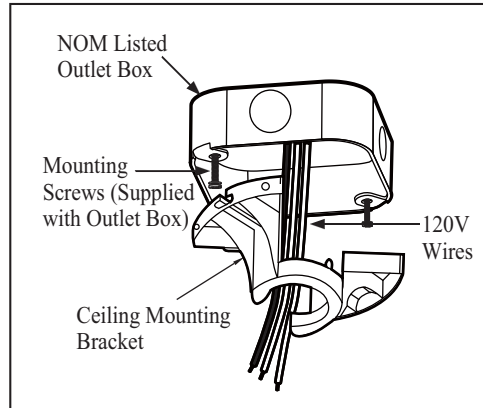
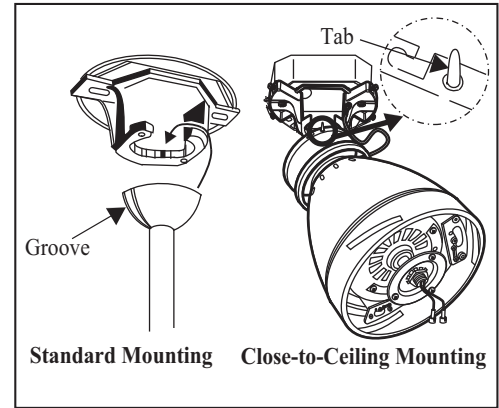

Figure 12
Figure 13
1. Pass the 120-volt supply wires through the center hole in the mounting bracket. (Figure 12)
2. Attach the mounting bracket on the outlet box by sliding the mounting bracket over the screws provided with the outlet box. (Figure 12) When using “close-to-ceiling” mounting, it is important that the mounting bracket be level. If necessary, use leveling washers (not included) between the mounting bracket and the outlet box. Note that the flat side of the mounting bracket is toward the outlet box. (Figure 12)
4. Carefully lift the fan assembly up to the ceiling mounting bracket and hang the fan on the tab provided by utilizing one of the holes at the outer rim of the ceiling canopy. (Figure 12) If use standard mounting, seat the hanger ball in the mounting bracket socket. Make sure the tab on the mounting bracket socket is properly seated in the groove in the hanger ball. (Figure 13)
THE TAB AS SHOWN IN FIGURE 12 IS ONLY TO BALANCE THE FAN WHILE ATTACHING WIRING. FAILURE TO HANG AS SHOWN IN FIGURE 12 MAY RESULT IN TAB BREAKING CAUSING THE FAN TO FALL. TAB MUST PASS FROM INSIDE TO OUTSIDE OF CANOPY.